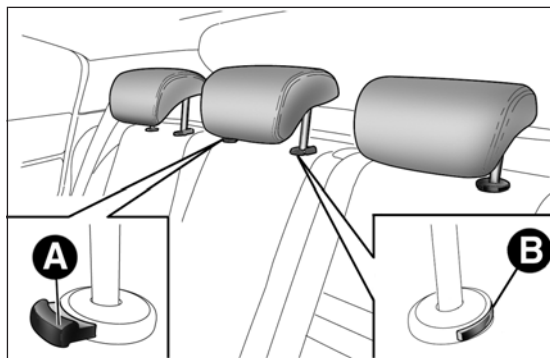

fig. 75
- raise the headrests to the maximum height, press both buttons A and B fig. 75 to the side of the two supports, then remove the head restraints by sliding them upwards;